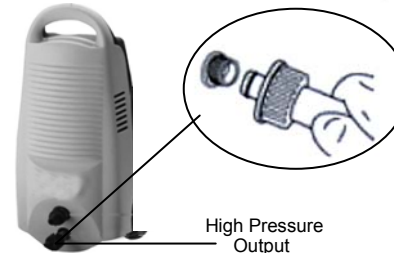

Fig. 2 (Lower Connector)
1. While facing the front of the unit attach the high pressure hose to the high pressure output connector on the front side of the unit. Twist on securely to avoid leakage. (Fig. 2)